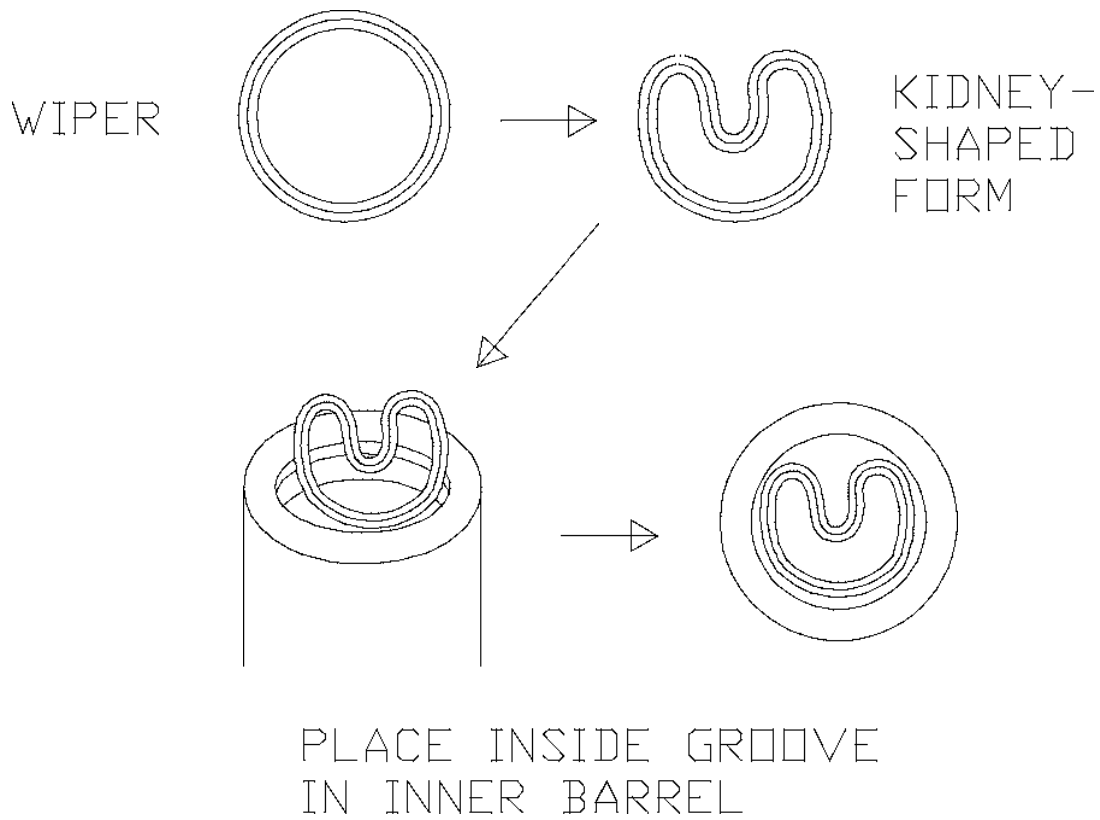

Fig. 15
Internal wiper, (see figure 15 e drawing in section 7.1.3).
1. Make sure a new wiper of correct type is available. The Internal wiper (33) is installed together with an O-ring (34) in a common groove.
6. Form the wiper into a kidney shape without creating any sharp bends, fig. 15.
7. Place the "deformed" wiper in the groove over the O-ring , and make sure the orientation is correct, with the pointed (cleaning) side of the wiper facing out of the inner barrel as per fig. 15.